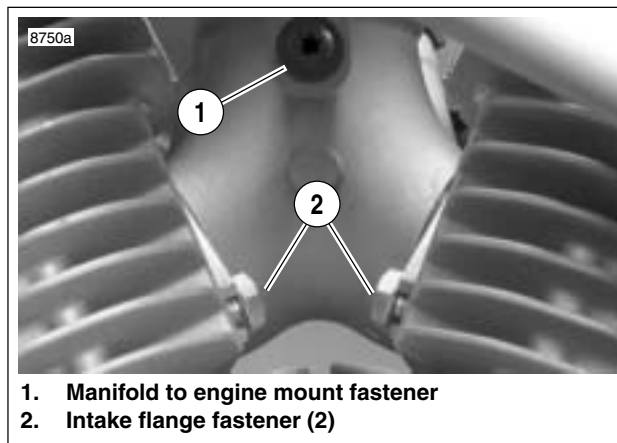

Figure 4-112. Intake Manifold (primary side)
- a. See Figure 4-112. On primary side, loosen but do not remove the two front and rear intake flange fasteners (2).
- b. Remove fastener (1) holding manifold to engine mount.
- a. See Figure 4-112. Slide the assembly toward installed position. Manifold should slide over fasteners (2) on primary cover side of engine.